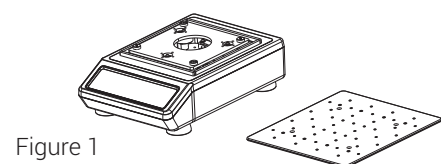

Figure 1
1. Remove Universal (Aluminum) Platform as shown in the figure 1.